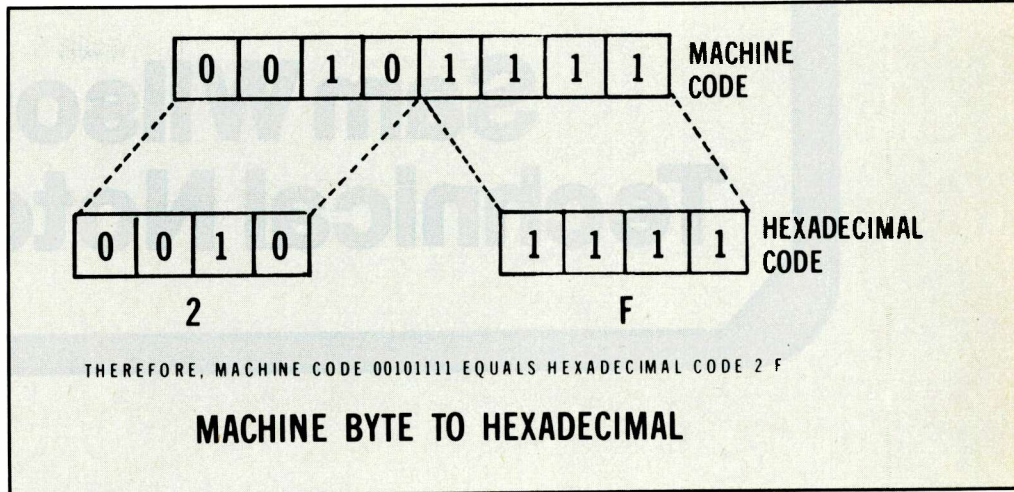

Figure 6 According to the example, binary byte machine code 00101111 equals 2F hexadecimal code.
duces a voltage gain of almost two. When a square wave (Figure 6) passes through an R/C high-pass filter of the proper values, the output pulses from one peak to the next have about twice the amplitude of the square waves that produced them.
**Figure 6** A square wave that is differentiated by the high-pass filter of A produces pulses that have almost double the total height of the original square waves (B). Can a filter amplify?
The alternate path (to the right) is called a branch or a jump. Branching is done with the 6800 microprocessor by order of the machine code 00101111. Conversion of this machine code to the more convenient hexadecimal code is illustrated in Figure 6.